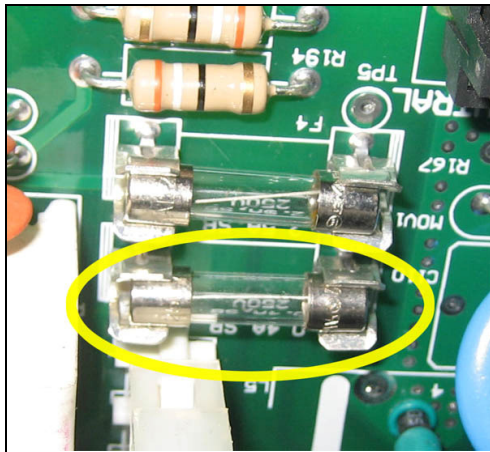
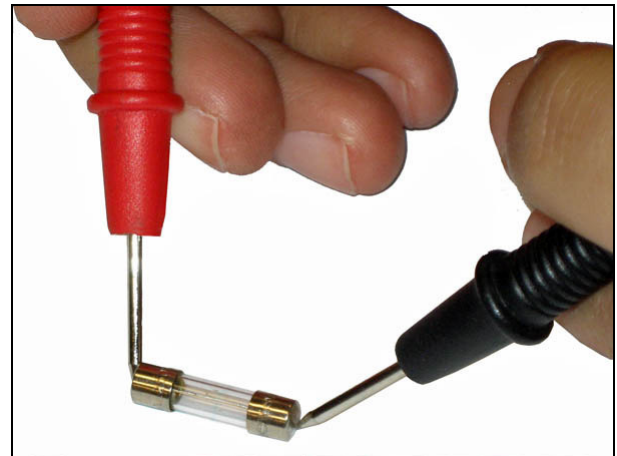

Fig. 7
Fig. 8
2. Remove fuse F1 from the MCB (Fig. 7) and with the multi-meter, check the fuse (Fig. 8). There should be continuity across the fuse.